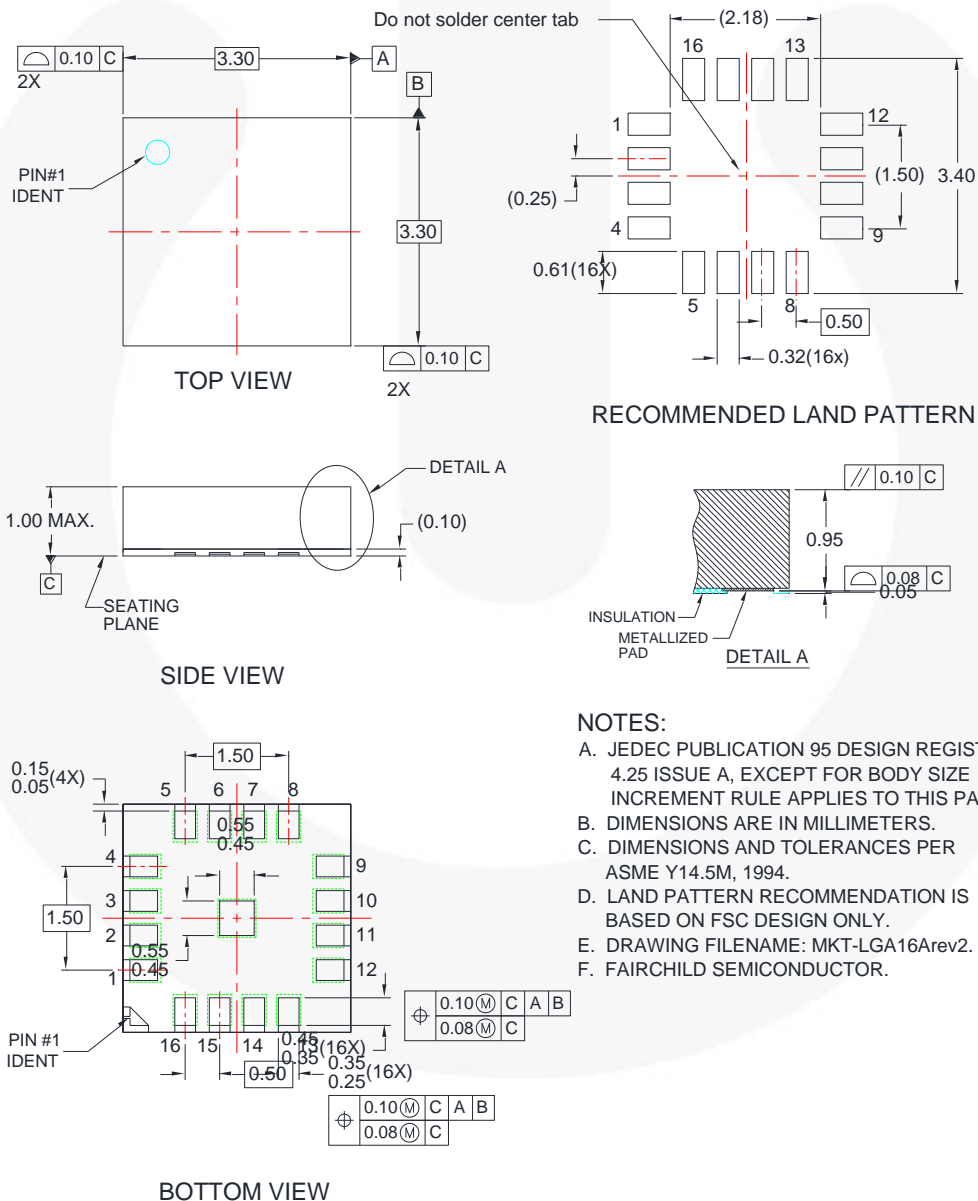

Figure 2. 16 Pin LGA (3.3 x 3.3 x 1 mm) Package Diagram and Land Pattern
- Minimize stress by using a land pattern consisting of an array of equal-sized rectangular pads as shown in Figure 2.